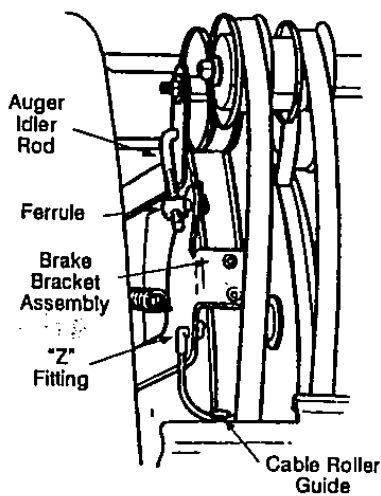

FIGURE 15
- Remove the cotter pin and washer from the ferrule in order to disconnect the auger idler rod from the brake bracket assembly as shown in figure 15.
- Slip the auger drive belt (the front belt) off the engine pulley. See figure 15.
- Attach the "Z" fitting of the cable into the brake bracket assembly. See figure 15.